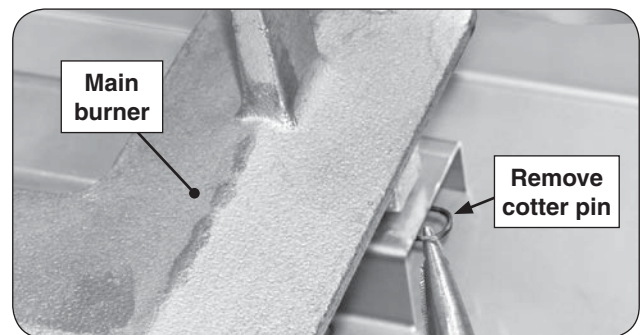

Fig. 36-2 Main burner removal
2. Locate and remove the cotter pin from the left or right rear burner anchoring peg by pulling it straight out of the cotter pin hole using fingers or needle-nose pliers. See Fig. 36-2.